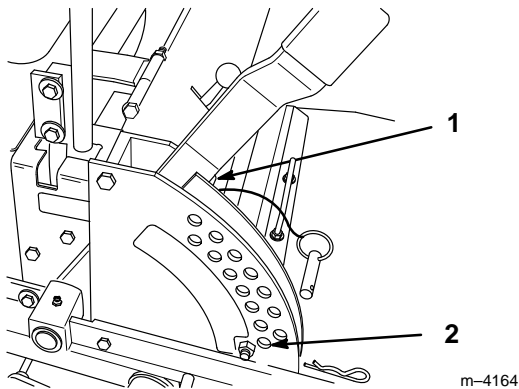

Figure 44
2. Check tire pressure of all four (4) tires. If needed, adjust to 13 psi (90 kPa)
4. Raise the deck to the transport position and take all force off of the two large deck lift springs by loosening nut in front of each spring (Fig. 44).
5. Place two 1-1/2" (38 mm) thick blocks under rear left and right lower edge of mower. Place one 2" (51 mm) block under front center lower edge of mower. Lower mower to the 1-1/2" (38 mm) height-of-cut position (Fig. 44).
1. Raise deck lift lever to the transport position (Fig. 44).